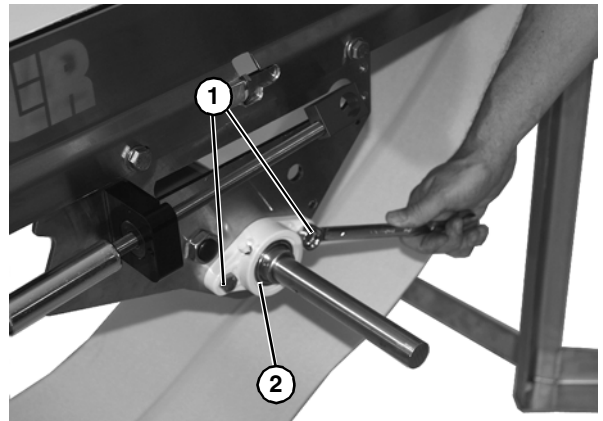

Figure 90
7. Remove two bolts (Figure 90, item 1) from retainer (Figure 90, item 2).